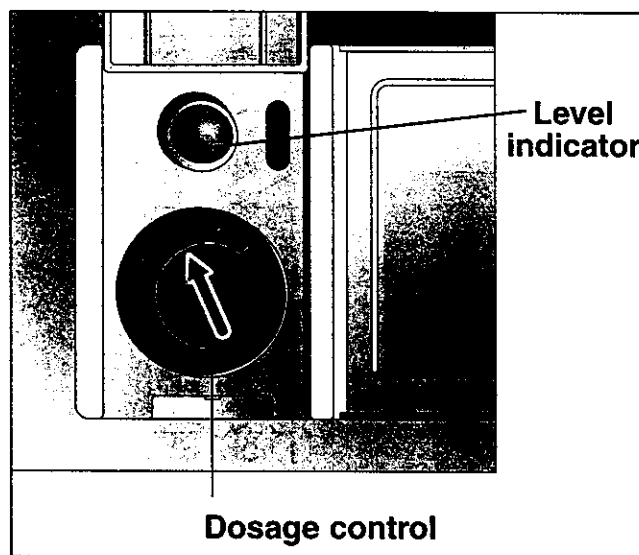

Figure 13.
The rinse agent reservoir of the Bosch dishwasher is provided with a regulator calibrated from 1 to 6. See Figure 13. This regulator controls the amount of rinse agent dispensed. The dishwasher leaves the factory preset to 3½. This has been chosen as the average setting, however:
- Turn the setting indicator to the desired setting. See Figure 13.